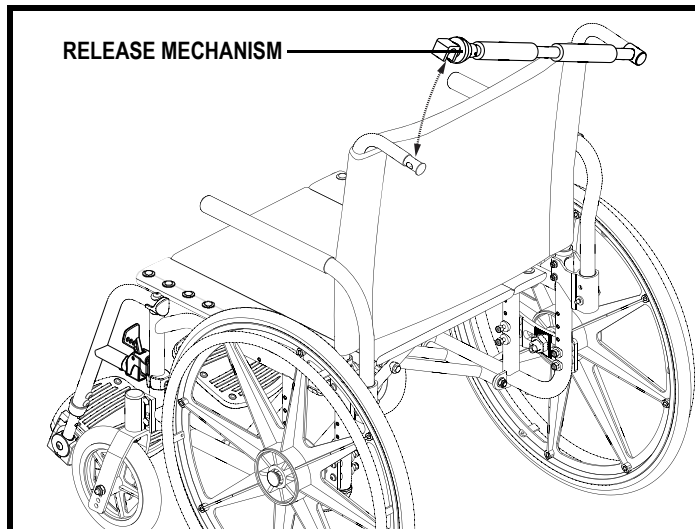

Figure 8. Stabilizing Bar Operation
1. Press and hold the release mechanism toward the center of the wheelchair. See figure 8.
1. If your wheelchair is equipped with an HD option, unlatch the stabilizing bar by pressing and holding the release mechanism and lifting the stabilizing bar up and away from the wheelchair. See figure 8.